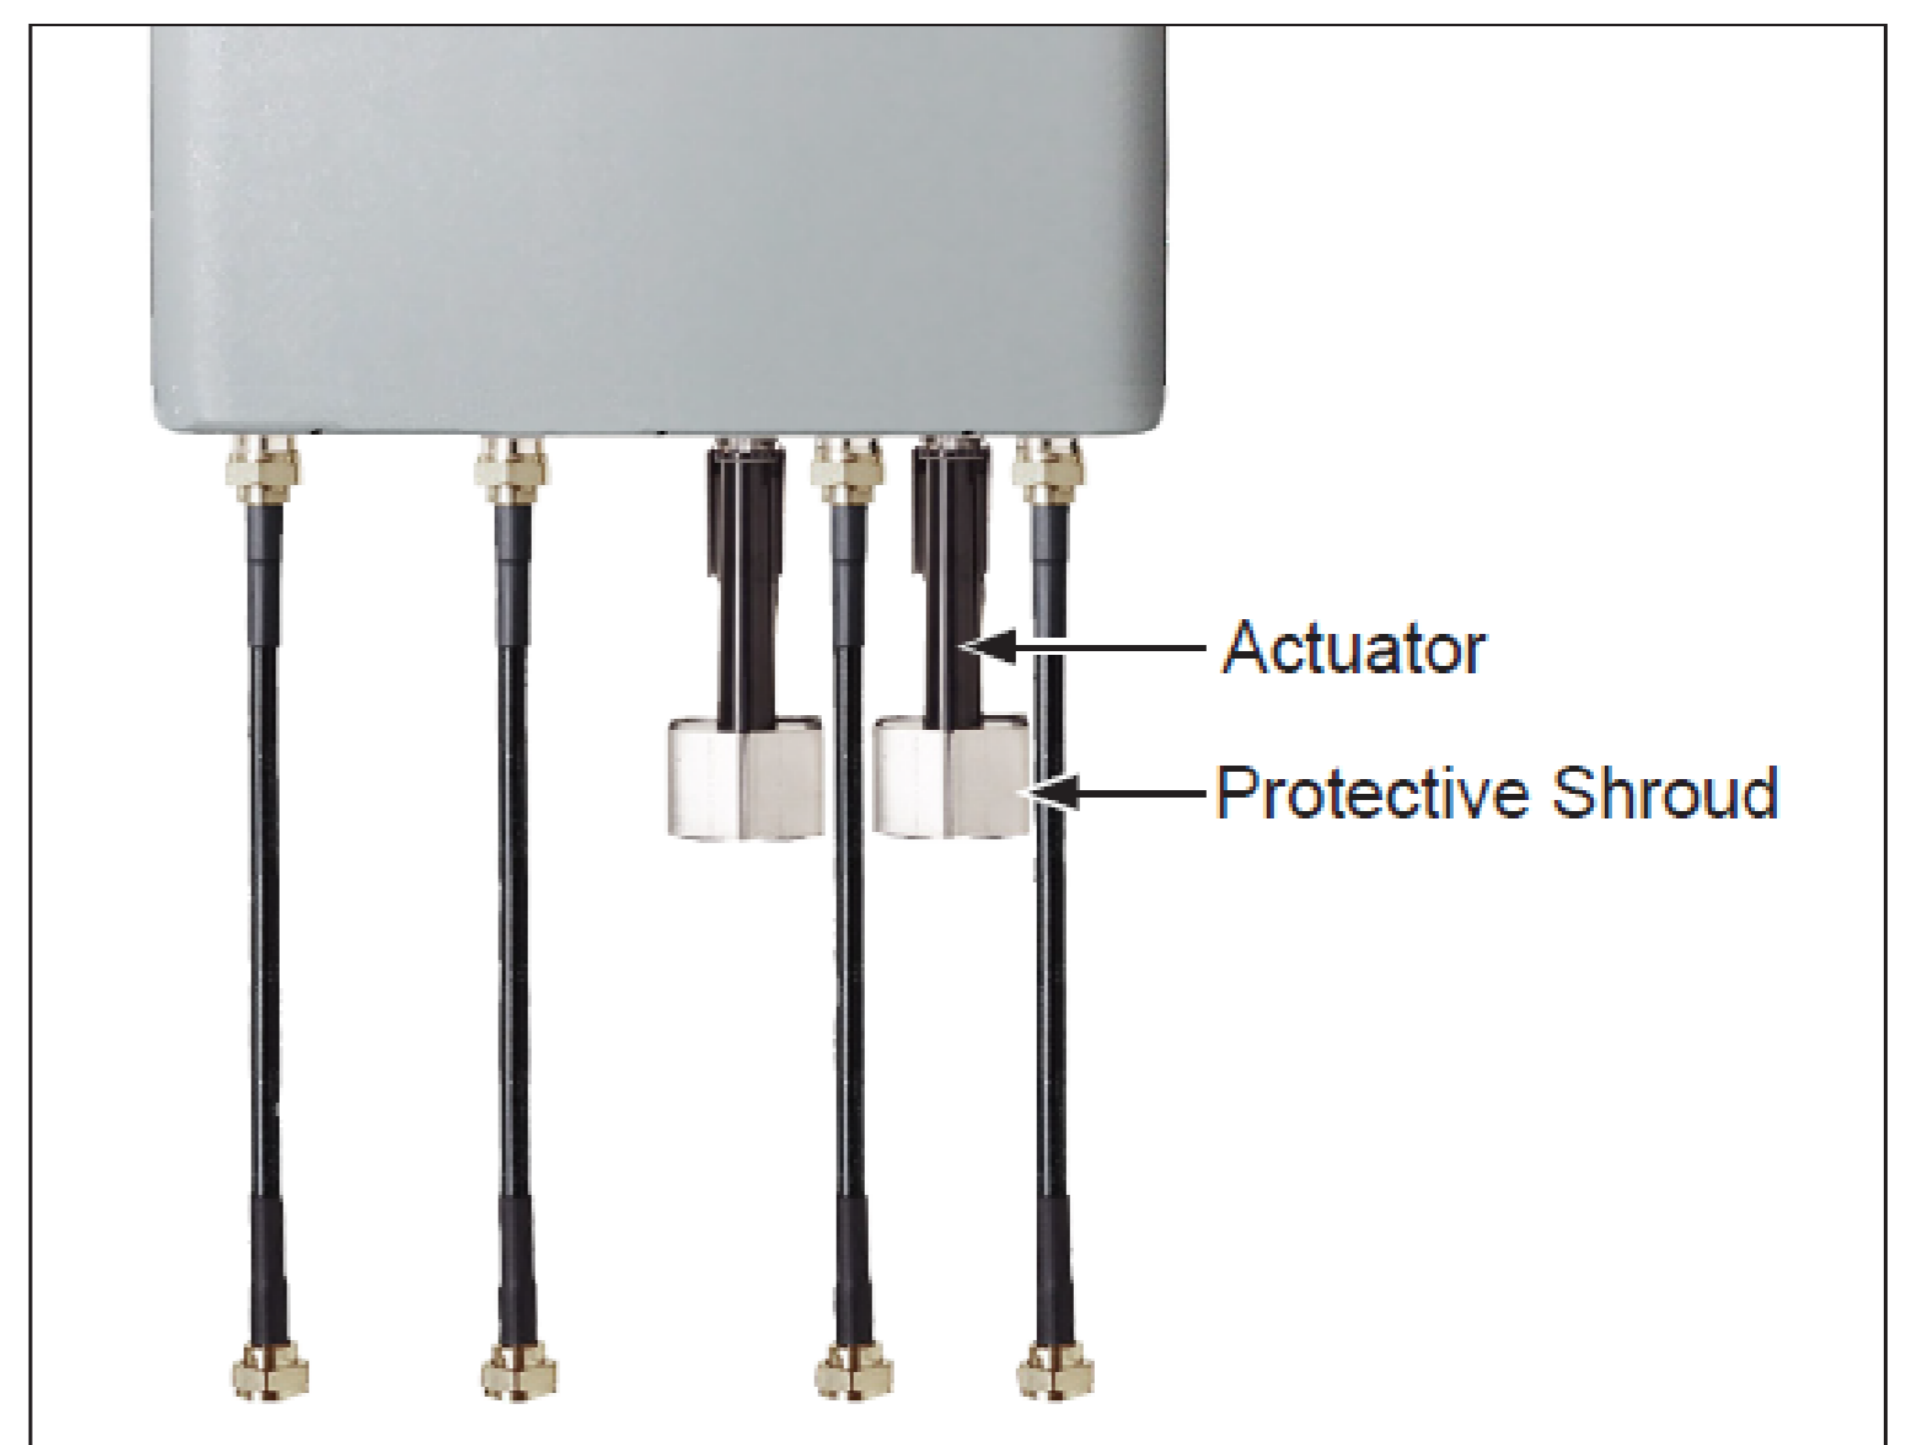

Figure 1. Actuators with Protective Shrouds.
2. Leave the protective shroud around the actuator (Figure 1).